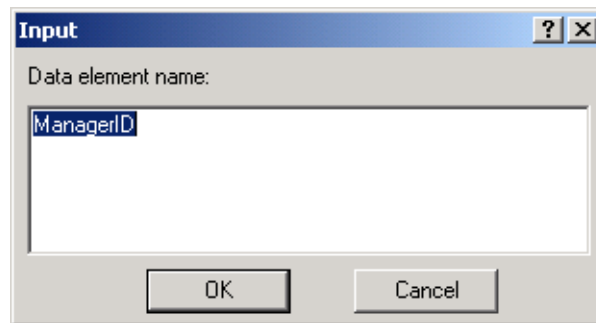

Figure 37-3. The Input dialog with a data element that will be providing input to the method.
- 2 Type the value that you want to be read to the method (refer to Figure 37-3, below). You can also click and drag a data element from the available data elements window and drop it in the **Data Element** column.